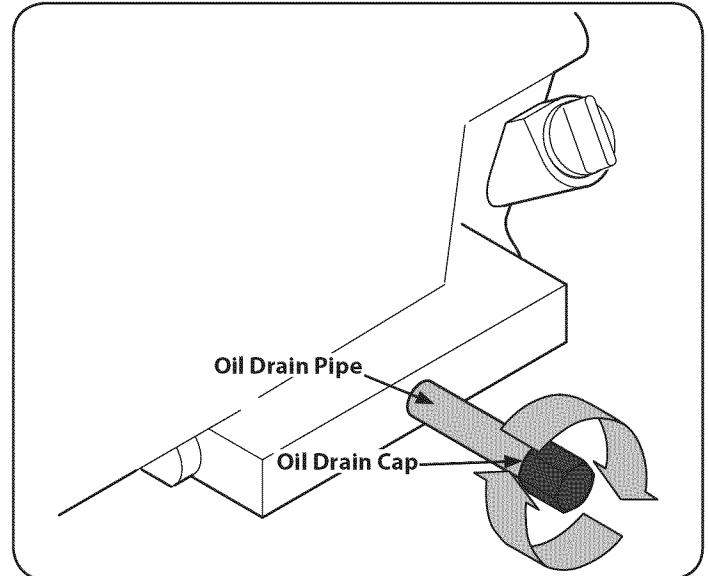

Figure 24
3. Remove oil drain cap located at the end of the oil drain pipe , and drain oil into an appropriate receptacle. See Figure 24.